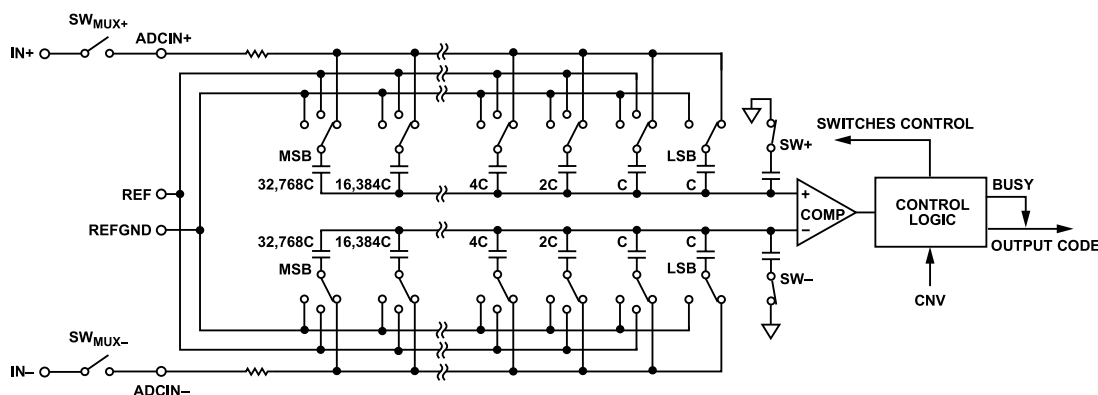
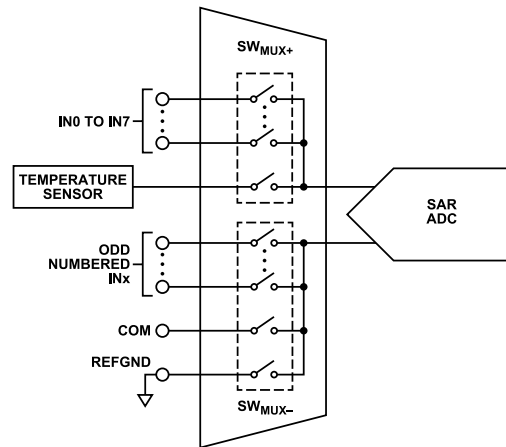
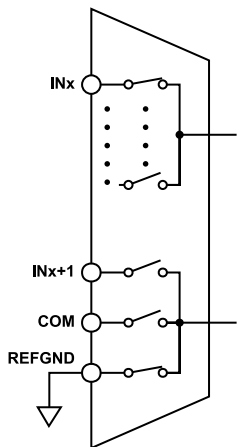

Figure 64. ADC Simplified Schematic
Figure 68. Multiplexer Simplified Schematic
Figure 69. INx Paired with REFGND
The AD4697/AD4698 contain an SAR-based ADC core that utilizes a charge redistribution digital-to-analog converter (DAC) to quantize the applied input voltage to an output code. Figure 64 shows a simplified schematic of the AD4697/AD4698 SAR ADC core.
The analog inputs and the temperature sensor are connected to the capacitor array inputs (ADCIN+ and ADCIN-) via the internal low crosstalk multiplexer, represented by SW_{MUX+} and SW_{MUX-} in Figure 64. The multiplexer switches are controlled by the internal channel sequencing logic and are updated once per conversion (see the Multiplexer section and the Channel Sequencing Modes section).
A low crosstalk analog multiplexer routes the signals from the analog input pins to the ADC core inputs. The impedance of the analog inputs is modeled as the parallel combination of the pin capacitance (C_{PIN}) and the network formed by the series connection of R_{IN} and C_{DAC} . R_{IN} represents the ADC input series resistance and the multiplexer switch resistance and is typically 240 Ω . C_{DAC} represents the ADC sampling capacitive DAC shown in Figure 64 and is typically 60 pF.
The AD4697/AD4698 contain a flexible, low crosstalk analog multiplexer for selecting from the eight analog inputs and internal temperature sensor and routing them to the inputs of the 16-bit, pseudo differential SAR, ADC core. Figure 68 shows a simplified schematic of the internal multiplexer. The SW_{MUX+} and SW_{MUX-} switches shown in Figure 64 and Figure 68 represent the multiplexer switches that route the selected channel to the ADC inputs (labeled ADCIN+ and ADCIN- in Figure 64). SW_{MUX+} and SW_{MUX-} are break-before-make and are controlled by the internal channel sequencing logic (see the Channel Sequencing Modes section).
The multiplexer allows flexible analog input channel configuration. The SW_{MUX-} position is user programmable and can be assigned to any of the pins shown in Figure 68 (see the Channel Configuration Options section).
The channel configuration settings include pin pairing assignments and signal polarity modes. The pin pairing options assign the position of SW_{MUX-} for each position of SW_{MUX+} and determine which signal is routed to the negative side of the SAR ADC core (ADCIN- in Figure 64). The signal polarity modes configure the ADCIN- voltage range. Figure 69 shows the pin pairing and voltage ranges for the different channel configuration options.
- ▶ Figure 69, IN0 to IN7 paired with REFGND
When the temperature sensor is selected, the multiplexer SW_{MUX+} switch (see Figure 68) selects the temperature sensor output and its SW_{MUX-} switch selects REF_GND, and the SAR ADC core samples V_{TEMP} to generate a corresponding output code. The analog-to-digital conversion of the temperature sensor output utilizes the same transfer function as an analog input configured in unipolar mode with $OSR = 1$ (see the Transfer Function section).